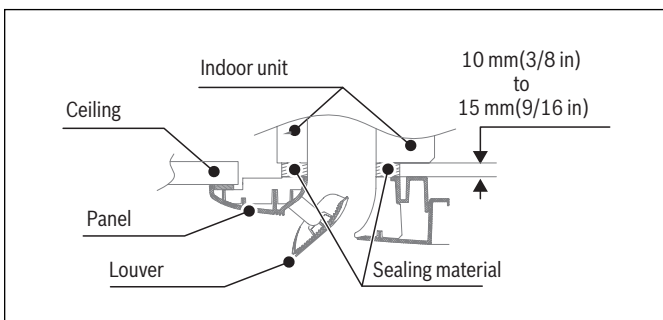

Figure 76
- f. Fully tighten the four corner screws until the sealing material on the panel is compressed to about 3/8"–9/16" (10–15 mm) (see Figure 76).